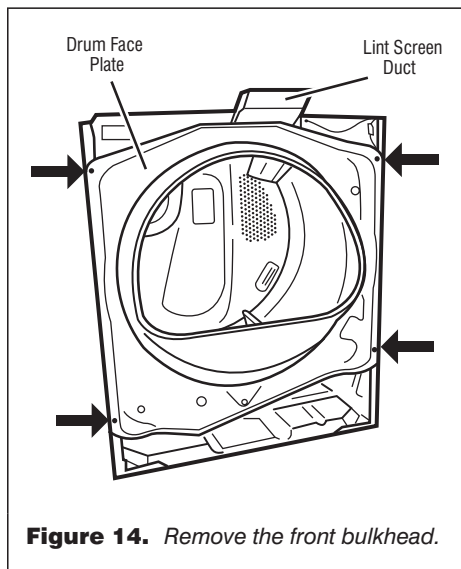

Figure 14. Remove the front bulkhead.
9. Remove the front bulkhead by loosening the upper two screws and removing the lower two screws. See figure 14.